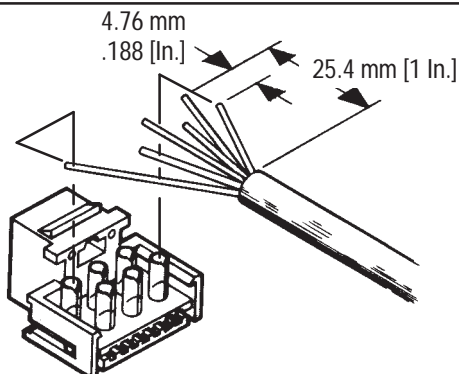

Figure 8
- Strip cable jacket and trim wires to dimensions shown in Figure 8.